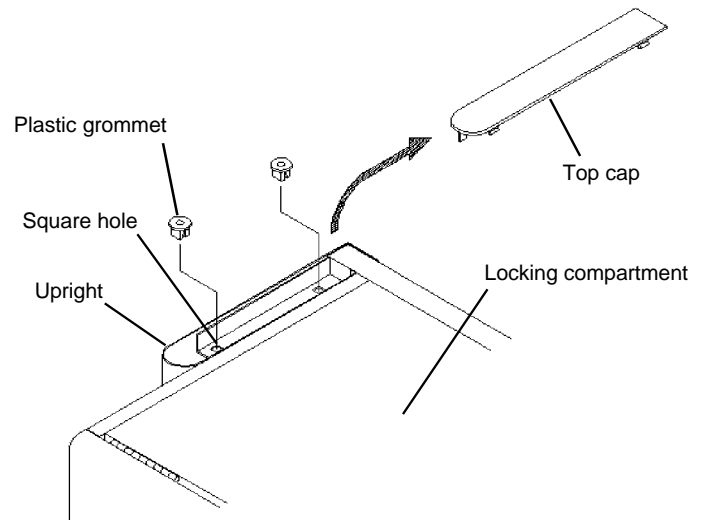

Figure 1
1. Remove the **Top Cap** from each of the Organizer uprights. See **Figure 1**.
2. Install a **Plastic Grommet** into each of the two square holes inside the top of each upright. See **Figure 1**.